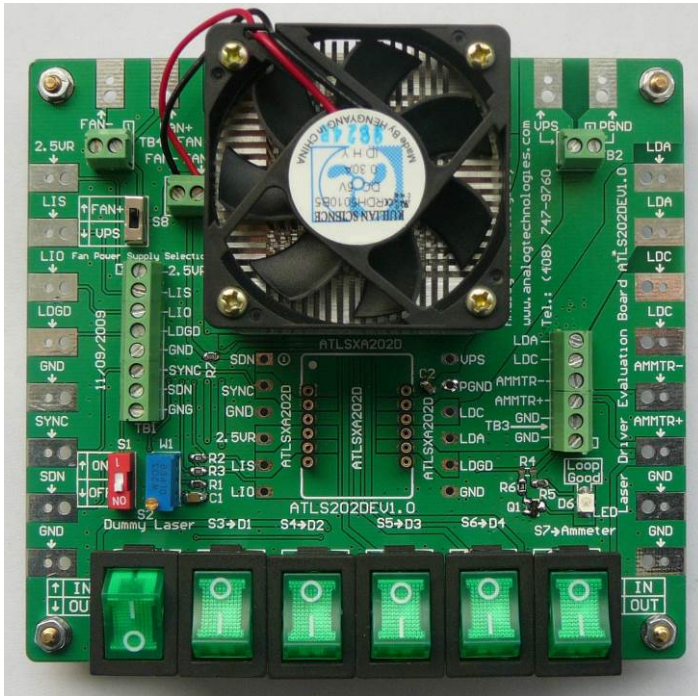

Figure 1. Physical Photo of ATLS202DEV1.0
The ATLS202DEV1.0 Evaluation Board is consisted of a complete application circuit for driving laser diodes. It can set and monitor the output current, has an LED for indicating the working status of the driver, and has numerous connection pads and terminal connectors for making connections with external components and instruments. Its physical photo is shown in Figure 1.
1. Hook up the power supply. There are 2 solder pads in the upper center area on the edge for connecting the power supply. The connection can be done by clipping or soldering on the pads, or locking in 2 wires through the terminal block TB2 by using the screws, see Figure 1. Usually the power supply is set to 5V. If the output maximum voltage is sure to be always at a low value, such as 2.5V, a power supply with a voltage of about 1V higher than the maximum output voltage, i.e. 3.5V, can be used. When using a lower voltage power supply, the power consumption of the driver will get smaller, thus, the driver will be working under lower temperature rise.